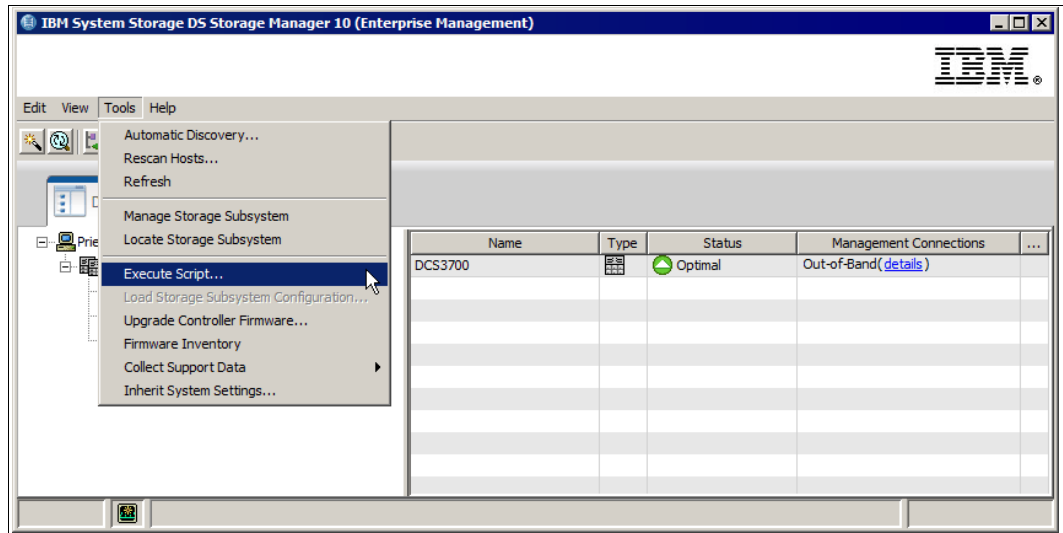

Figure 15-1 Script Editor
1. To start the Script Editor, from the Storage Manager window, click **Tools** → **Execute Script**, as shown in Figure 15-1.